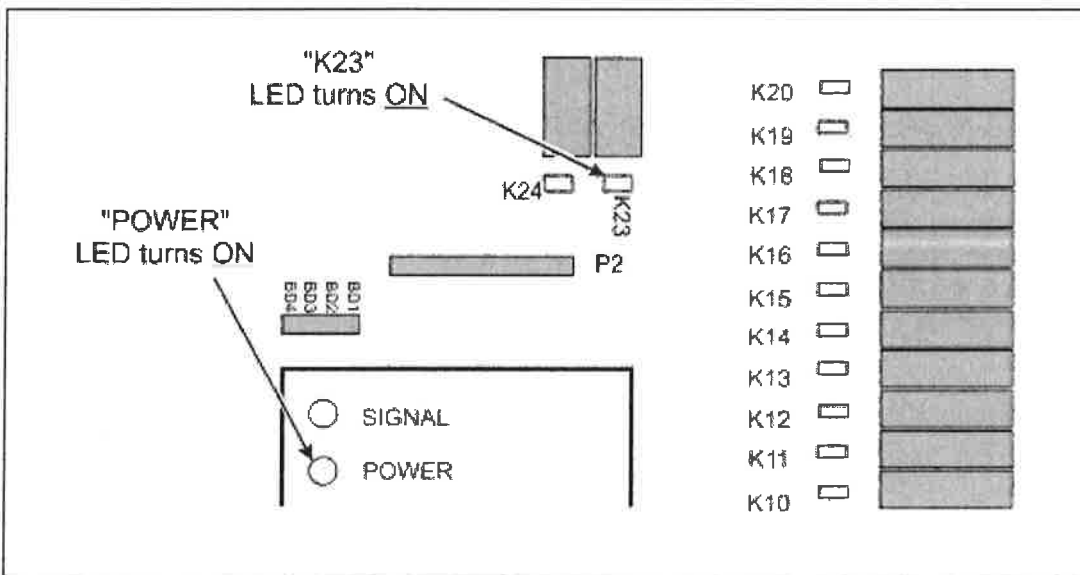

Figure 10: 21R22 Status LED Indicators - Receiver ON (Transmitter OFF)
2. Verify that the POWER LED and the K23 (MLC) LED both turn ON. Refer to Figure 10.